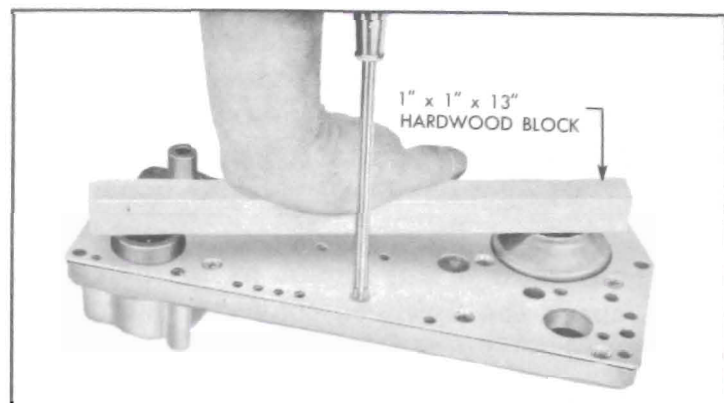

Figure 5-61—Removing Servo Body Spacer Plate
low servo then place a 1"x1"x13" wooden block across the low and reverse servo spring seats. See figure 5-61.
4. Install a *new* spacer plate gasket and place spacer plate in position over spring seats. Place a 1"x1"x13" wooden block across spring seats to compress the springs while installing the spacer plate screws (fig. 5-61). Tighten screws